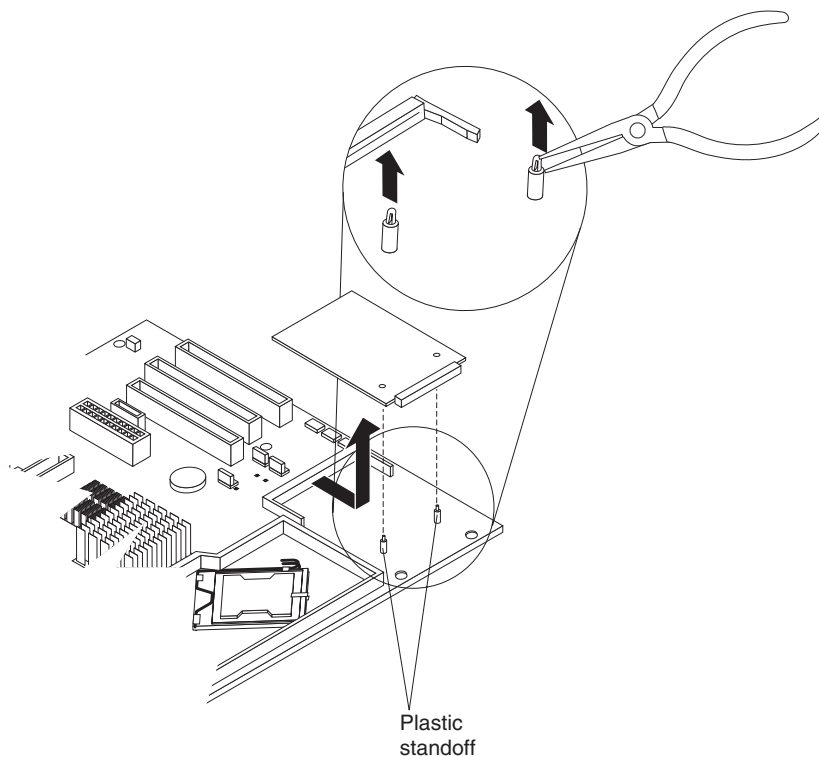

Figure 39. Removing the mini-PCI adapter
7. Gently pull up on the connector end of the mini-PCI adapter until it disengages from the plastic standoffs. If the standoffs come away from the system board with the SCSI card, gently pull them out of the SCSI card and push them back into their apertures on the system board (see Figure 39).